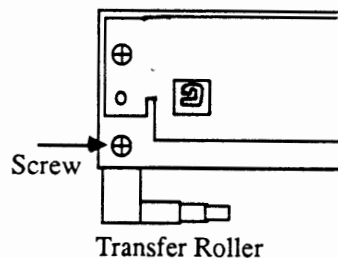

FIGURE 2-34
3. Remove the transfer roller (see Appendix, Photo 5, #2) by removing its one screw (Figure 2-34) and lifting out the transfer roller.